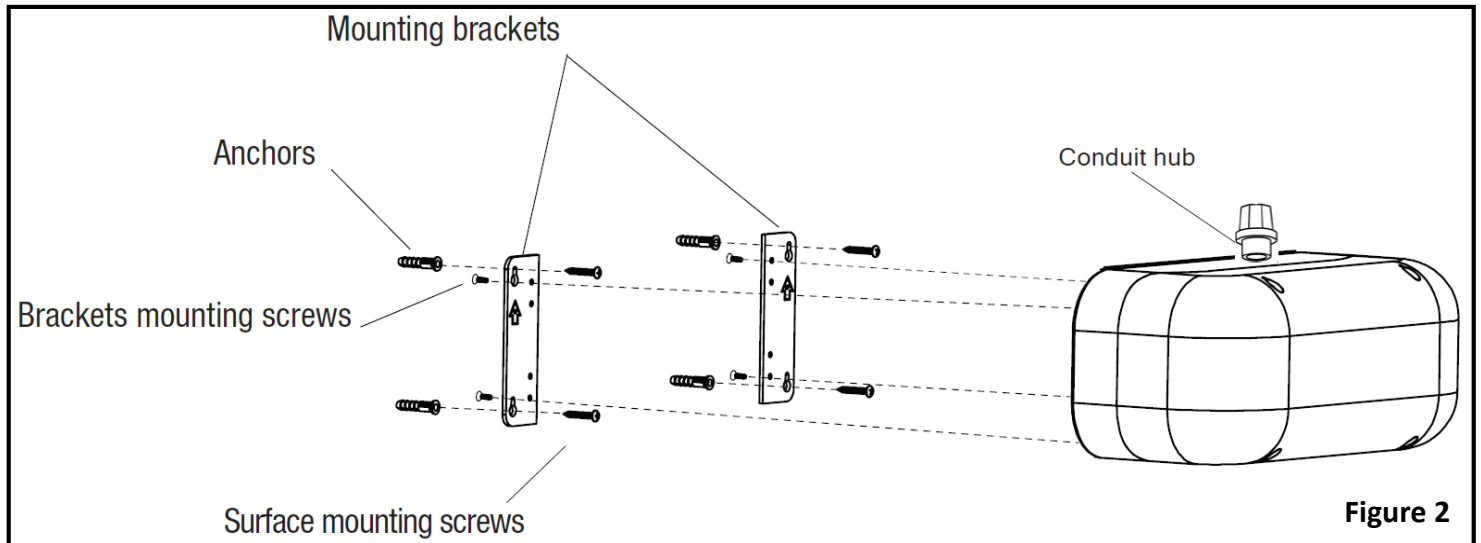

Figure 2
2. Mount the (2) surface mounting brackets provided onto the backplate/back housing and secure using the four #7-21x3/8" flat head screws provided (Figure 2).
3. Place the housing on the required surface. Drill (4) mounting holes on the wall, using the mounting bracket holes as a drilling template. Tap in using a mallet, the four screw anchors into the holes (Figure 2).
4. Remove the (4) plastic caps and loosen the (4) lens screws until the lens is detachable from the unit housing.